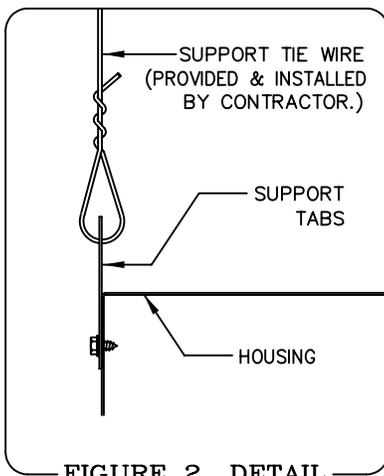

FIGURE 2. DETAIL
2. FASTEN SUPPORT TABS ON EACH CORNER WITH #8 SHEET METAL SCREWS PROVIDED. TIE FIXTURE SUPPORT TABS TO STRUCTURAL MEMBER. (SEE FIGURE 2 DETAIL.)
- 4- **REPLACING LENS:** START AT END OF FIXTURE. ANGLE LENS SLIGHTLY DOWNWARDS. PLACE BOTH LENS TRACKS ONTO HOUSING EDGE WORKING TOWARDS ANGLED END. LENS SHOULD SNAP ONTO FIXTURE. (SEE FIG. 2)